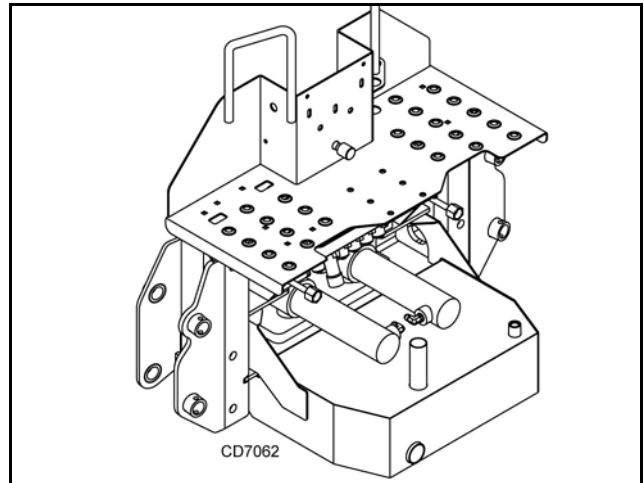

Figure 22. Reservoir Installed
1. Attach outlet side of filter assembly (4) to the top of the reservoir as shown.
2. Attach adapter (6) and elbow (3) to the opposite side of the filter assembly. Position elbow toward the backhoe.
3. Install strainer (10) and elbow (11) into reservoir as shown with elbow pointing up.
4. Install hydraulic reservoir (1) to bottom of backhoe main frame using four cap screws (7) hardened flat washers (8), and hex nuts (9).
- NOTE:** The reservoir mounts below the swing cylinders as shown in Figure 22.
5. Attach reducer (15) and elbow (14) to the IN side of the hydraulic pump.
6. Attach reducer (25) and elbow (17) to the OUT side of the hydraulic pump.
7. Install hose (13) between elbows (11) and (14) and secure using two hose clamps (12).
8. Attach hose (23) to the backhoe control valve OUT port and hose (24) to the IN port.
9. Attach hose (23) to elbow (3).
10. Attach hose (24) to elbow (17).
11. Attach pump mounting bracket (18) to the hydraulic pump (16) using two cap screws (19) and lock nuts (20).